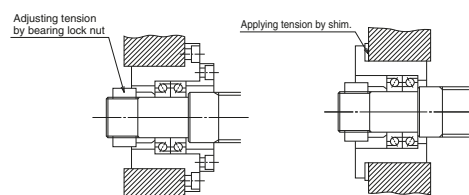

Fig. 1.2 Bearing structure to provide pre-tension
- Set pre-tension. (Fig. 1.2)
(3) How to determine specified travel
Fig. 1.2 shows the bearing support structure in such occasions.